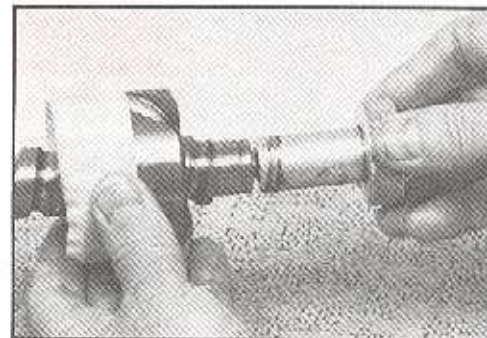

Figure 127
22. Remove worm shaft as assembled from vise and place it on a clean cloth covered work surface to retain loose balls. Hold the piloted end of mandrel and ball nut assembly (25A) against the bottom end of the worm shaft (25B). Rotate worm shaft to engage ball nut assembly in the worm ball groove and position ball nut halfway along the worm shaft ball groove length. SEE FIGURE 127.